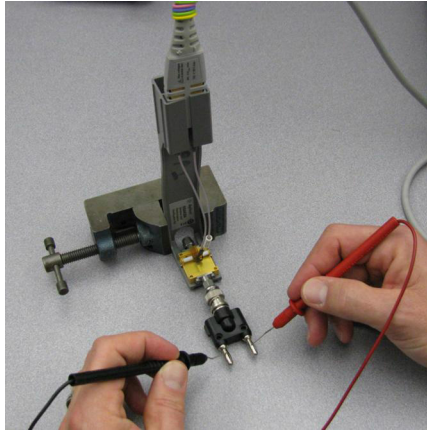

Figure 100 Measuring the Differential Input Resistance of Solder-In Probe Head
Figure 100 shows the correct setup for measuring the differential input resistance for the solder-in probe head.
- 1 Connect the BNC to SMA adapter and BNC to Banana Plug adapters as shown in **Figure 100** on page 136.
- 4 Connect the ZIF or solder-in probe head to the probe amp and insert it into the PV fixture as shown **Figure 100**.
- 6 As shown in **Figure 100**, measure the DC input resistance between the banana plugs. Since one tip wire is connected to the signal line and the other tip is connected to the PV fixture ground, this is a measurement of the differential input resistance. It should be $100\text{ k}\Omega \pm 2\%$ (98 to 102 k Ω).